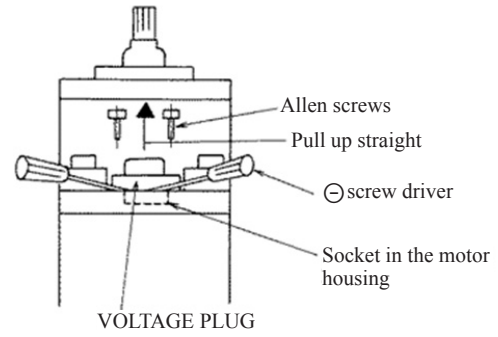

Fig.1
B. Remove the two Allen screws and carefully pull the voltage plug up and out using two screwdrivers as shown in Fig.1.